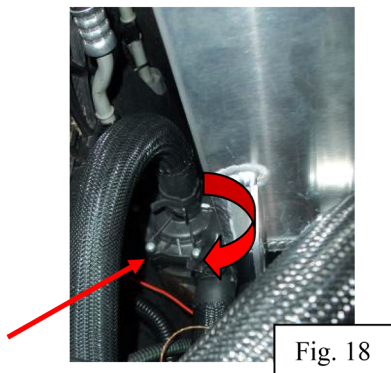

Fig. 18
18. Check for clearances around the heat exchanger. The coolant pump may have to be rotated slightly to clear the heat exchanger. Grab the base of the pump and rotate the pump in the bracket to gain clearance if needed (Fig. 18).